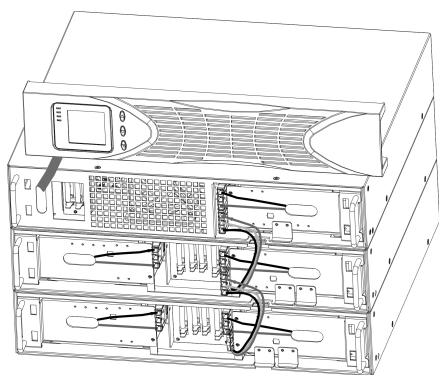

Figure3 Typical EBP Installation
3. Plug the EBP cable(s) into the battery connector(s) as shown in Figure 3. Up to four EBPs may be connected to the UPS. Connect red to red, black to black, and yellow to yellow. Press the two parts tightly together to ensure a proper connection.